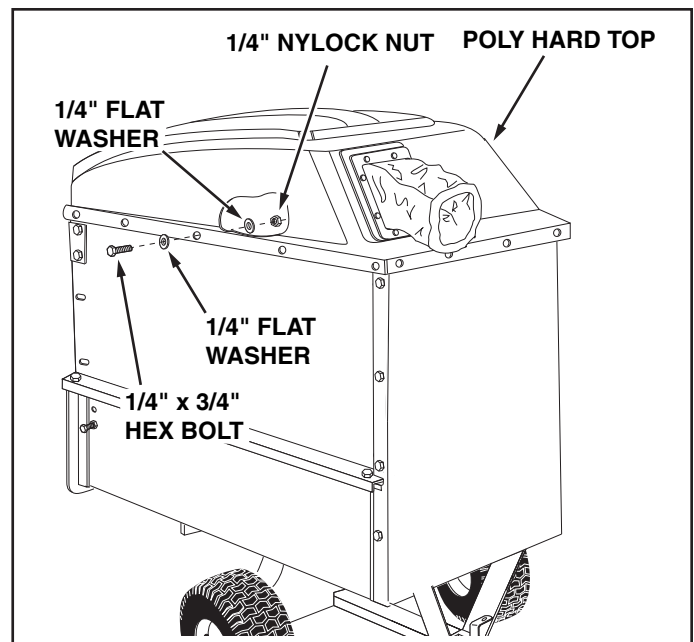

FIGURE 14
- Install the poly hard top using fourteen 1/4" x 3/4" hex bolts and 1/4" flat washers on the outside and fourteen 1/4" flat washers and 1/4" nylock nuts on the inside. **Tighten.** See figure 14.